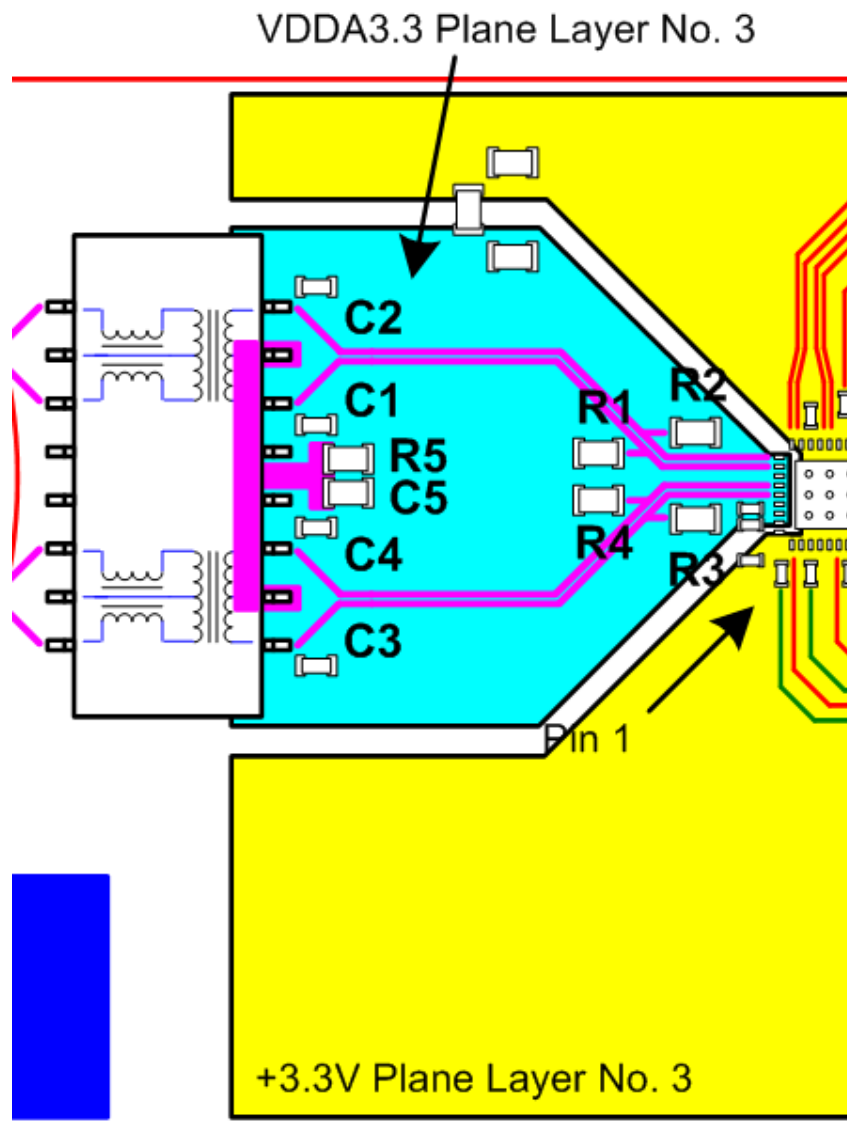

Figure No. 2
7. Refer to Figure No. 2 for VDDA3.3 power plane details.